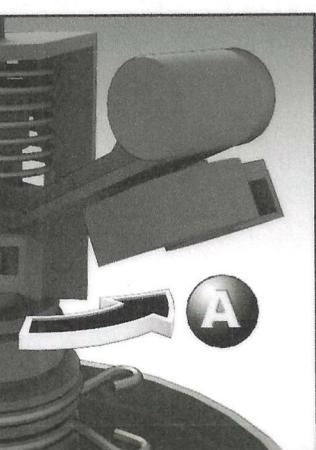

Figure 6
3. Pull the rotor arm aside to expose the nozzle (**Figure 6, A**).
4. Rotate the nozzle tab down to release the nozzle (**Figure 6, B**).